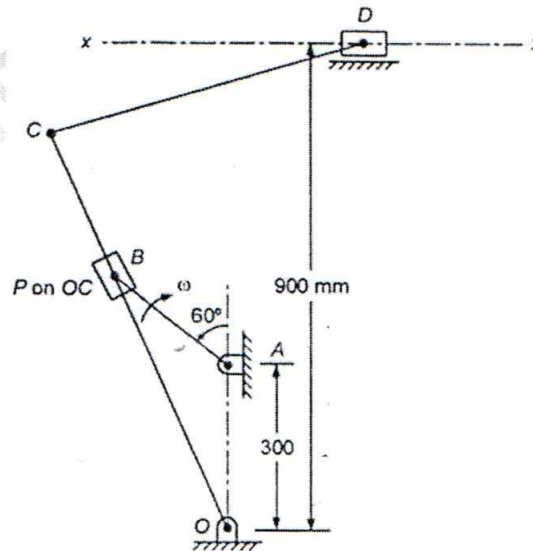

Fig.7a
- 7 In the crank and slotted lever type quick return motion mechanism shown in Fig. 7a, the crank AB rotates at 120 rpm (CW). Determine (a) velocity of ram at D, (b) magnitude of Coriolis acceleration component, and (c) acceleration of ram at D. $AB = 200$ mm, $OC = 800$ mm, $CD = 600$ mm and $OA = 300$ mm. 20